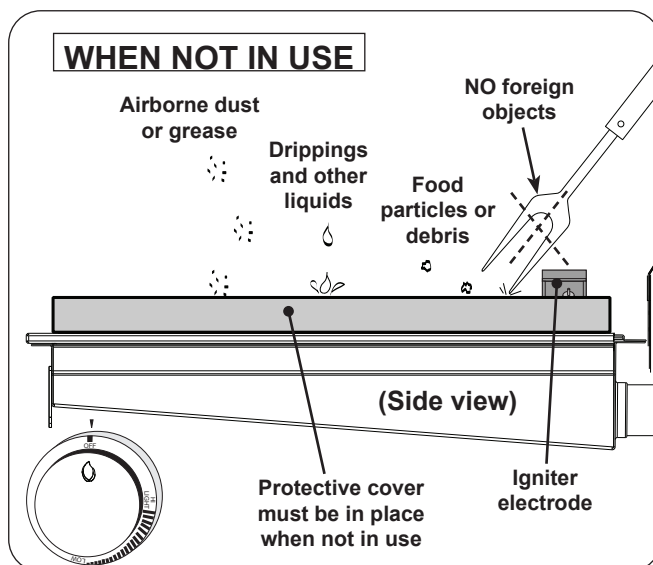

Fig. 33-2 Infrared burner - WHEN NOT IN USE
- When not in use, **always** cover the infrared burner with the stainless-steel cover. This protects the burner from drippings (from other cooking), water, airborne particles, and foreign objects (Fig. 33-2).
- Do not strike or scrape the ceramic portion of the burner as it may chip, crack, or break (Fig. 33-2).